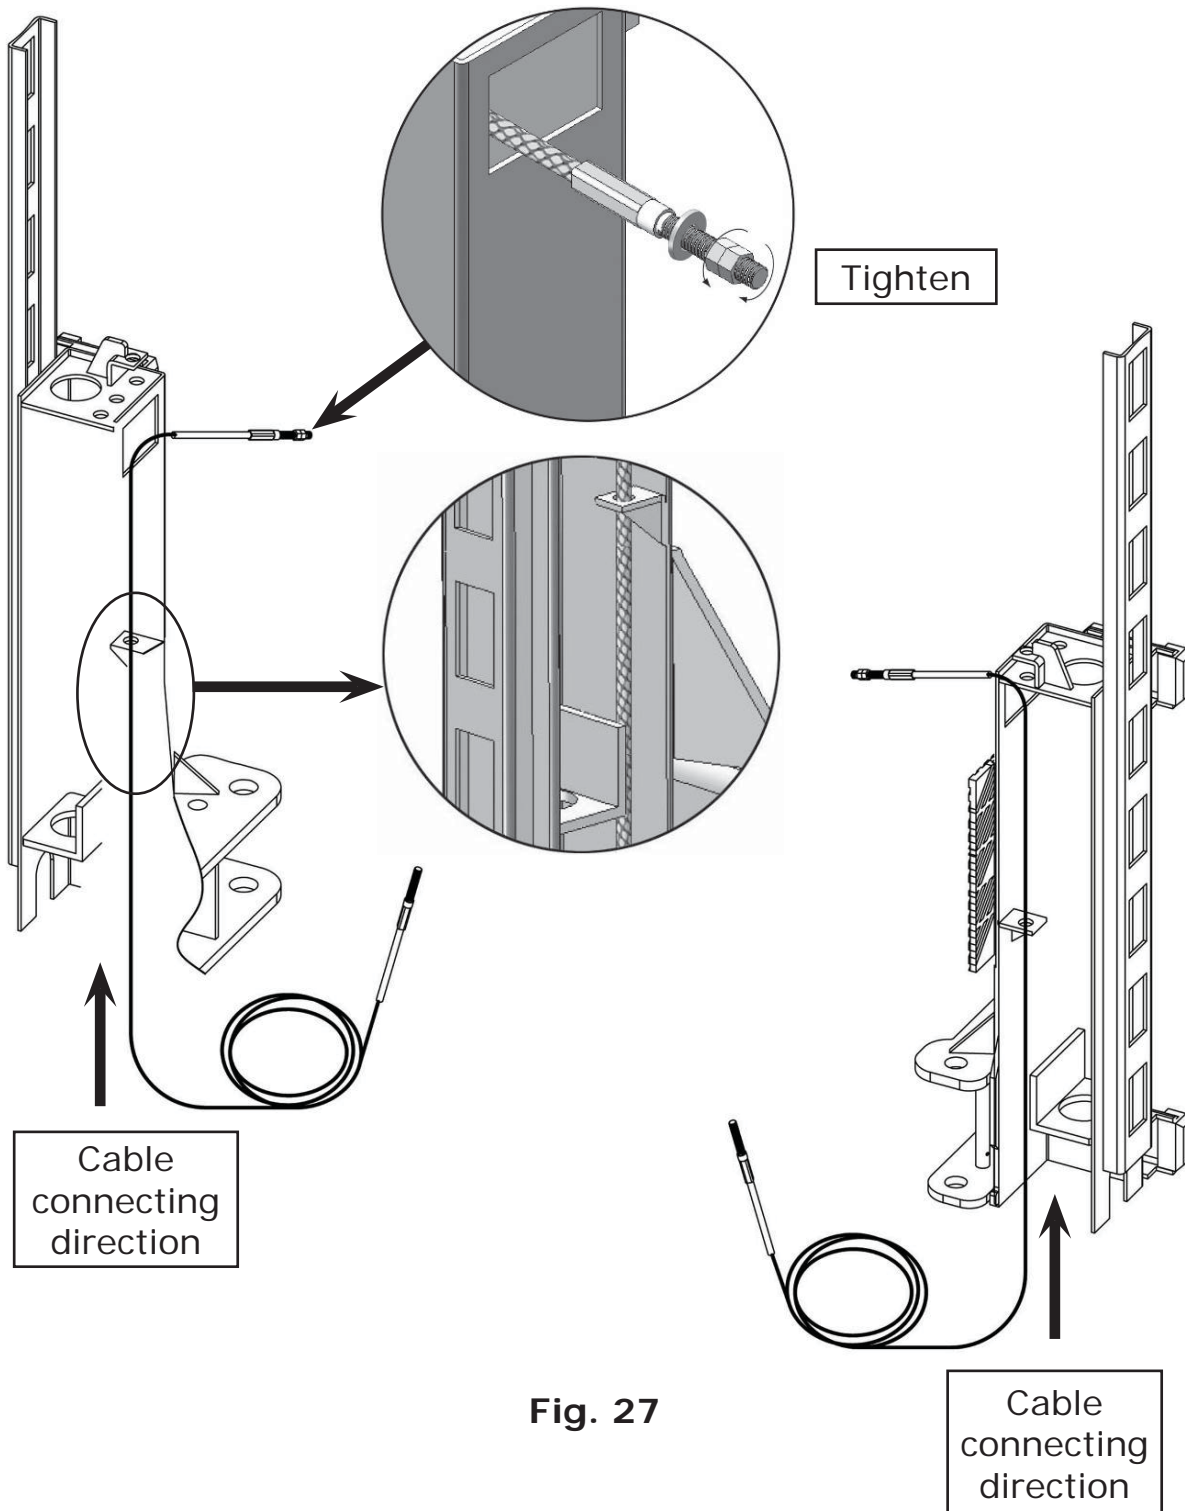

**Fig. 26**
**K. Lift The Carriages Up By Hand And Lock Them At The Same Level (See Fig. 26)**